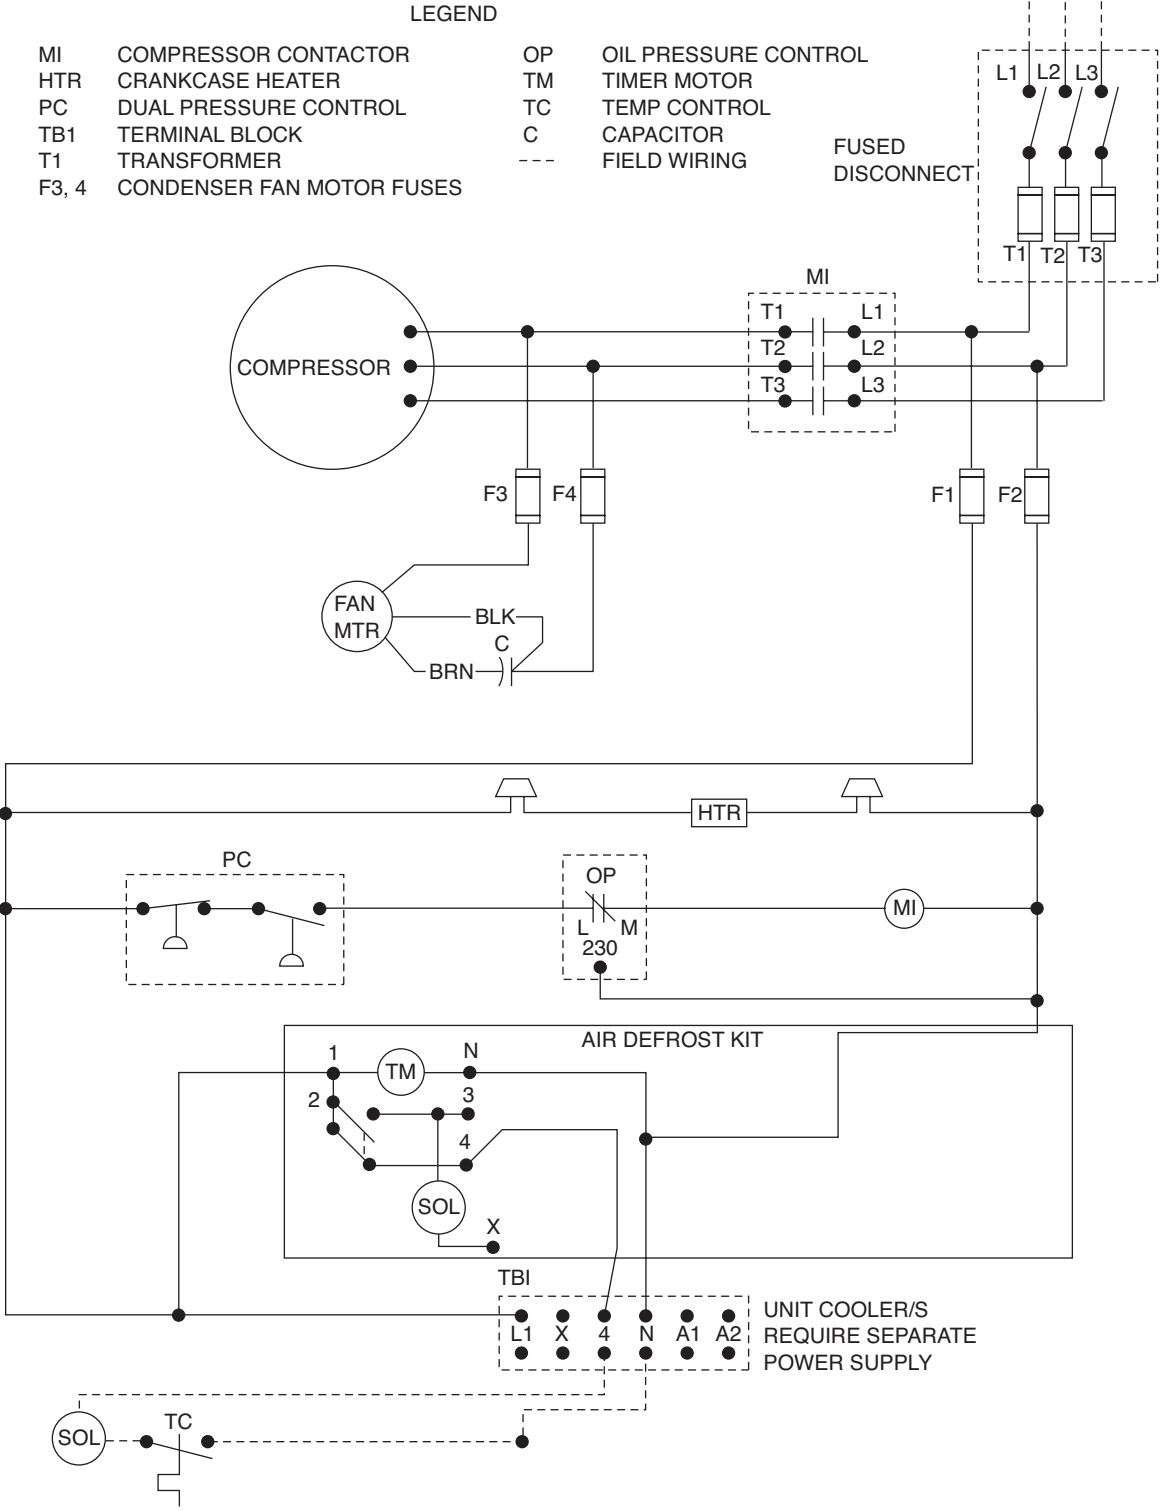

FIGURE 20-24 Walk-in cooler-air defrost.
6. Redraw the walk-in cooler-air defrost diagram Figure 20-24 as a ladder diagram.
6. In Figure 20-24, walk-in cooler-air defrost,